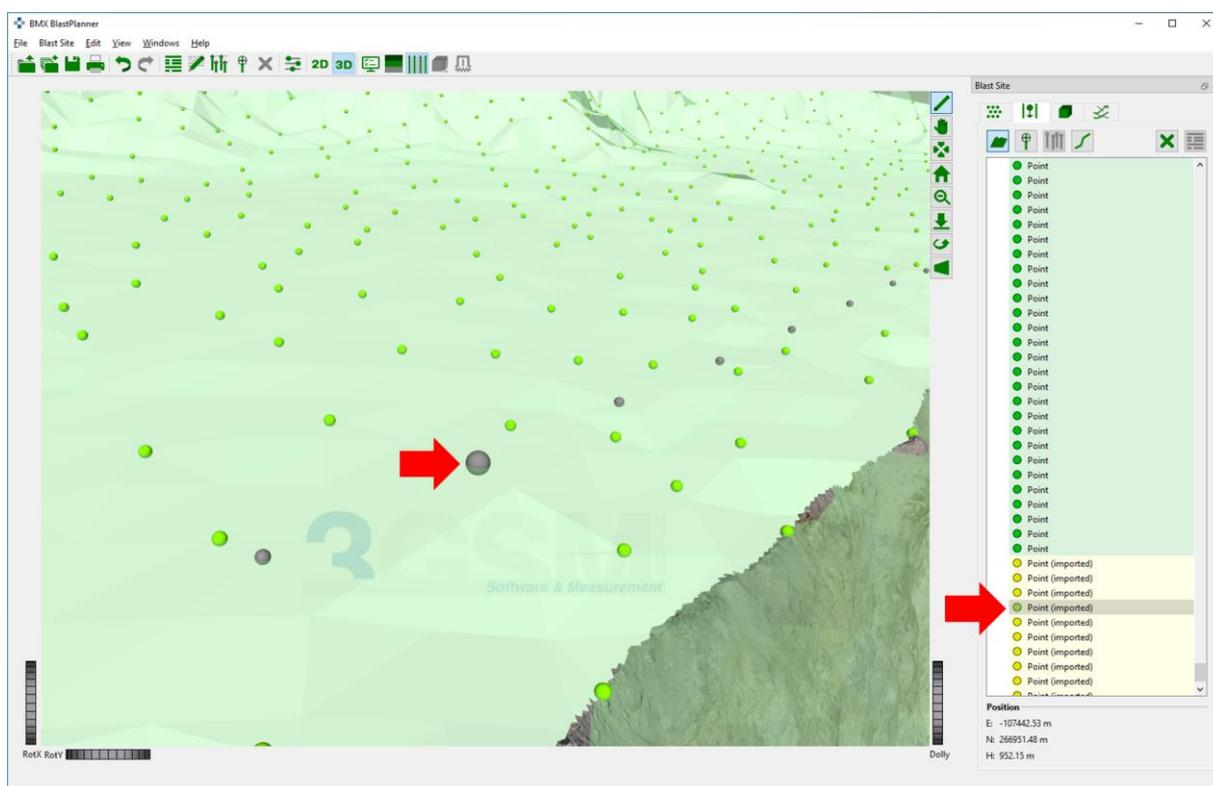

Figure 40: Detail of imported TLS point (grey spheres)
3. Click the “OK” button to import *Top Level Surface Points*. Imported TLS points appear as grey spheres and are highlighted in yellow in the list (Figure 40).